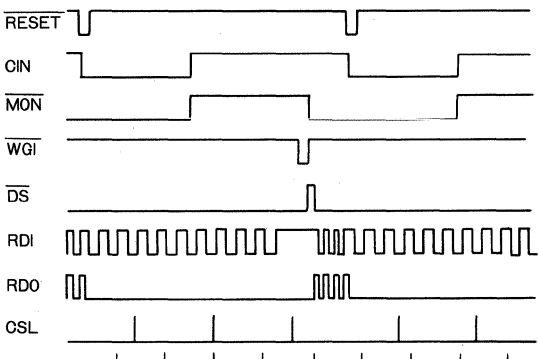

Fig.27
(7) READ/(SIDE LATCH) (Table10, 11, Fig.27, 28参照)